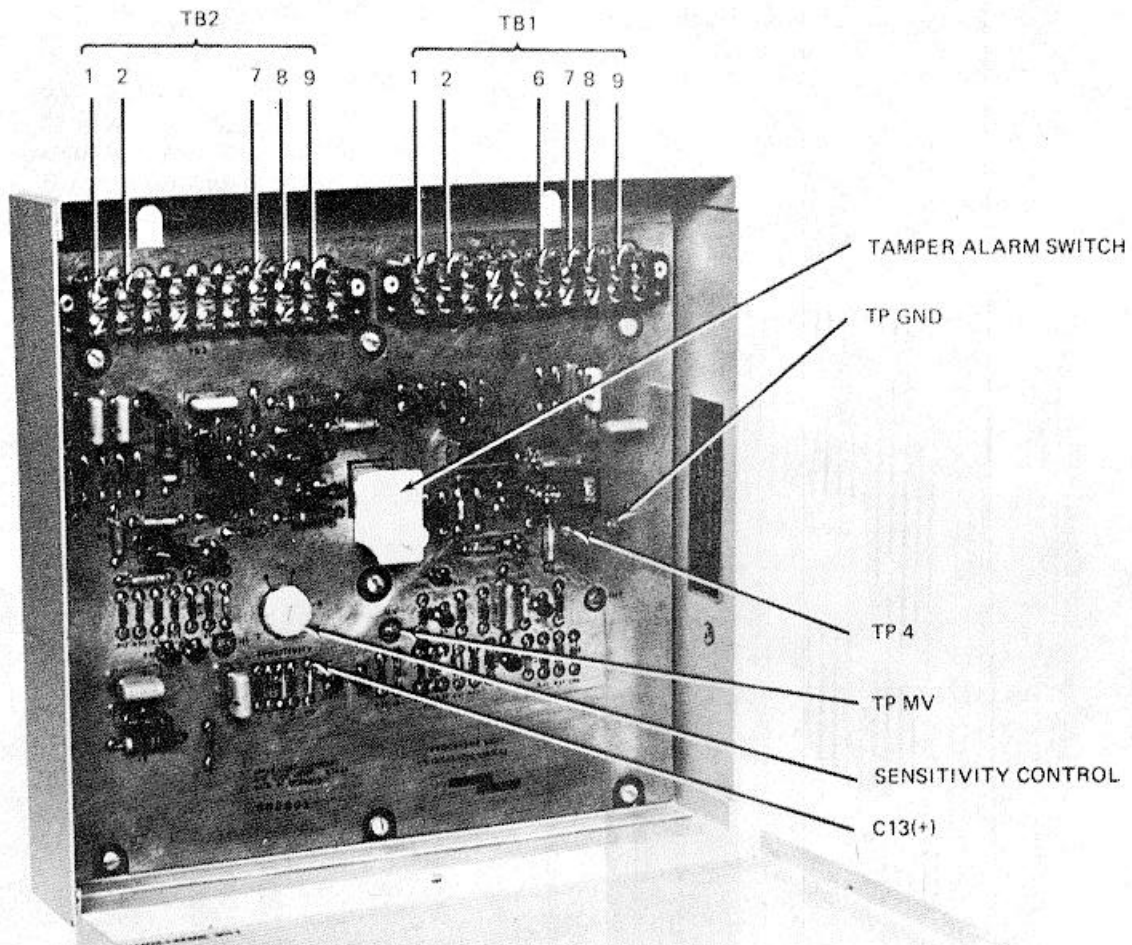

Figure 5-1. Processor, Vibration Signal with Troubleshooting Test Points
- (6) Inspect all metal surfaces intended to be painted for condition of finish and legibility of panel lettering.
- f. Refer to figures 5-1 and 5-2 for all test points called out in troubleshooting table 5-1. Step-by-step troubleshooting procedures, including Trouble, Probable Cause, and Corrective Action, are listed in table 5-1.